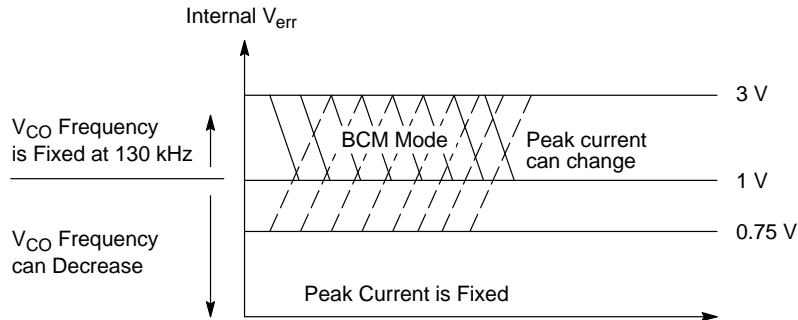

Figure 13. When the Power Demand goes Low, the Peak Current is Frozen and the Frequency Decreases
To detect the zero primary current, we make use of an auxiliary winding. By coupling this winding to the primary, we have a voltage image of the flux activity in the core. Figure 13 details the shape of the signal in BCM.
The auxiliary winding for demagnetization needs to be wired in Forward mode. However, the application note describes an alternative solution showing how to wire the winding in Flyback as well. As Figure 13 depicts, when
3. As can be seen from Figure 13, the parasitic oscillations on the drain are subject to a natural damping, mainly imputed to ohmic losses. At a given point, the demag activity on the auxiliary winding becomes too low to be detected. To avoid any re-start problem, the TY72001 features an internal 4.0 μ s timeout delay. This timeout runs after each demag pulse. If within 4.0 μ s further to a demag pulse no activity is detected, an internal signal is combined with the VCO to actually re-start the MOSFET (synchronized with Ct).